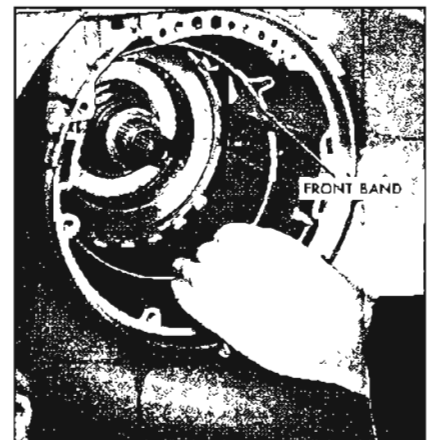

Figure 5-543
10. Remove the front band assembly. See Figure 5-543.